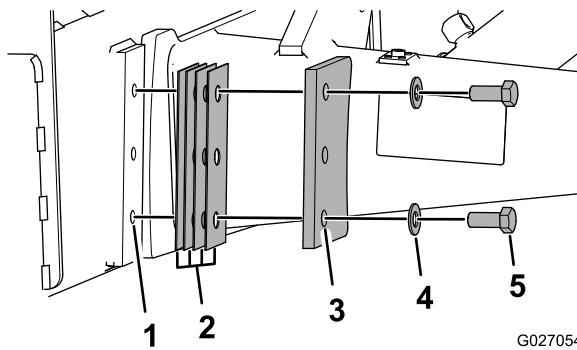
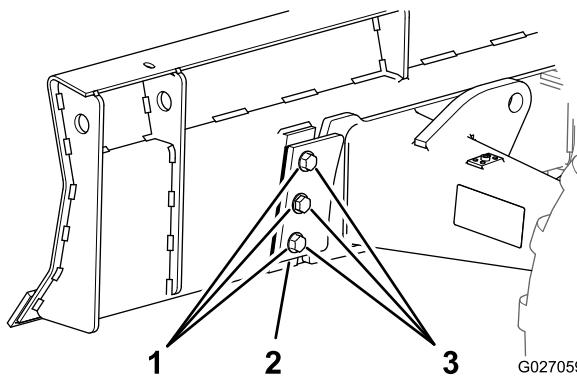

Figure 36
Figure 37
- A. Remove the bolts and washers (Figure 36).
- A. Add a retainer shim between the threaded plate of the backfill blade and the retainer plate (Figure 36).
- C. Assemble the retainer plate, bolts, and washers until they are hand tight (Figure 36).
8. Assemble the backfill blade to the mounting plate at each side of the machine with the 2 retainer plates, 6 bolts (5/8 x 1-1/2 inch), 6 washers (5/8 inch), and the shims (Figure 36 and Figure 37) that you determined in step 5.